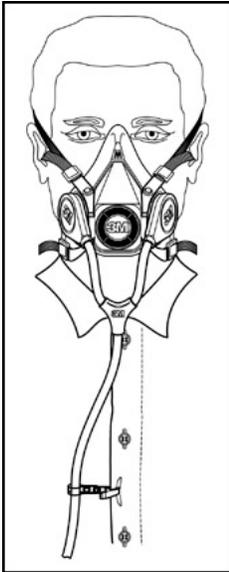

Fig. 8
5. On the 3M SA-1500 or SA-1600 breathing tubes, use the clip to secure the tube to your clothing. (Fig. 8)